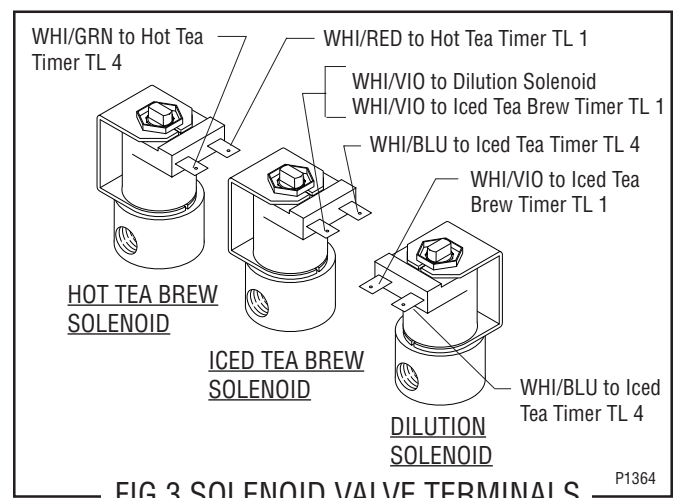

FIG.3 SOLENOID VALVE TERMINALS
10. Refer to Fig.3 when reconnecting the wires.